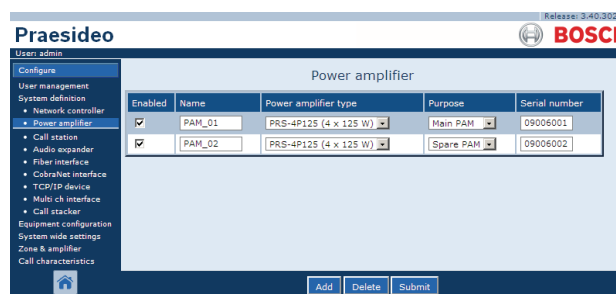

figure 43.9: Delete power amplifier, step 2
- Click anywhere in the row of the power amplifier that has to be deleted from the system definition. The entire row is highlighted (see figure 43.9).